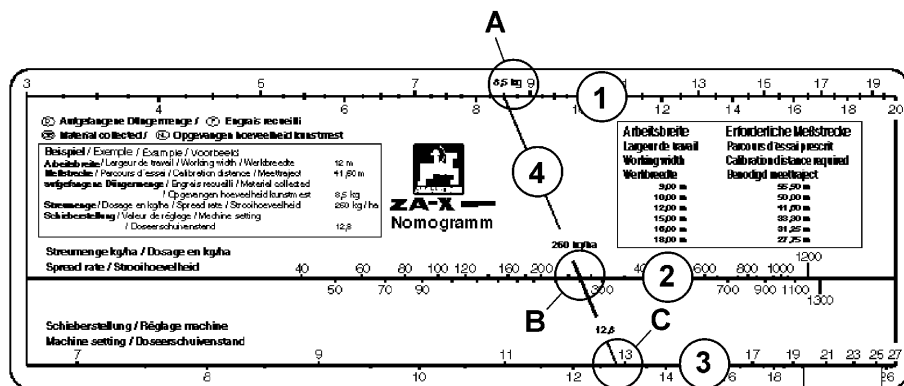

Fig. 30
1. an **upper scale** (Fig. 30/1) for the **fertiliser quantity** of between 3 and 20 kg collected at the spread rate check.
2. A **centre scale** (Fig. 30/2) for the desired **spread rate** of between 40 and 1300 kg/ha.
3. A **lower scale** (Fig. 30/3) for the shutter position of 7 to 27.